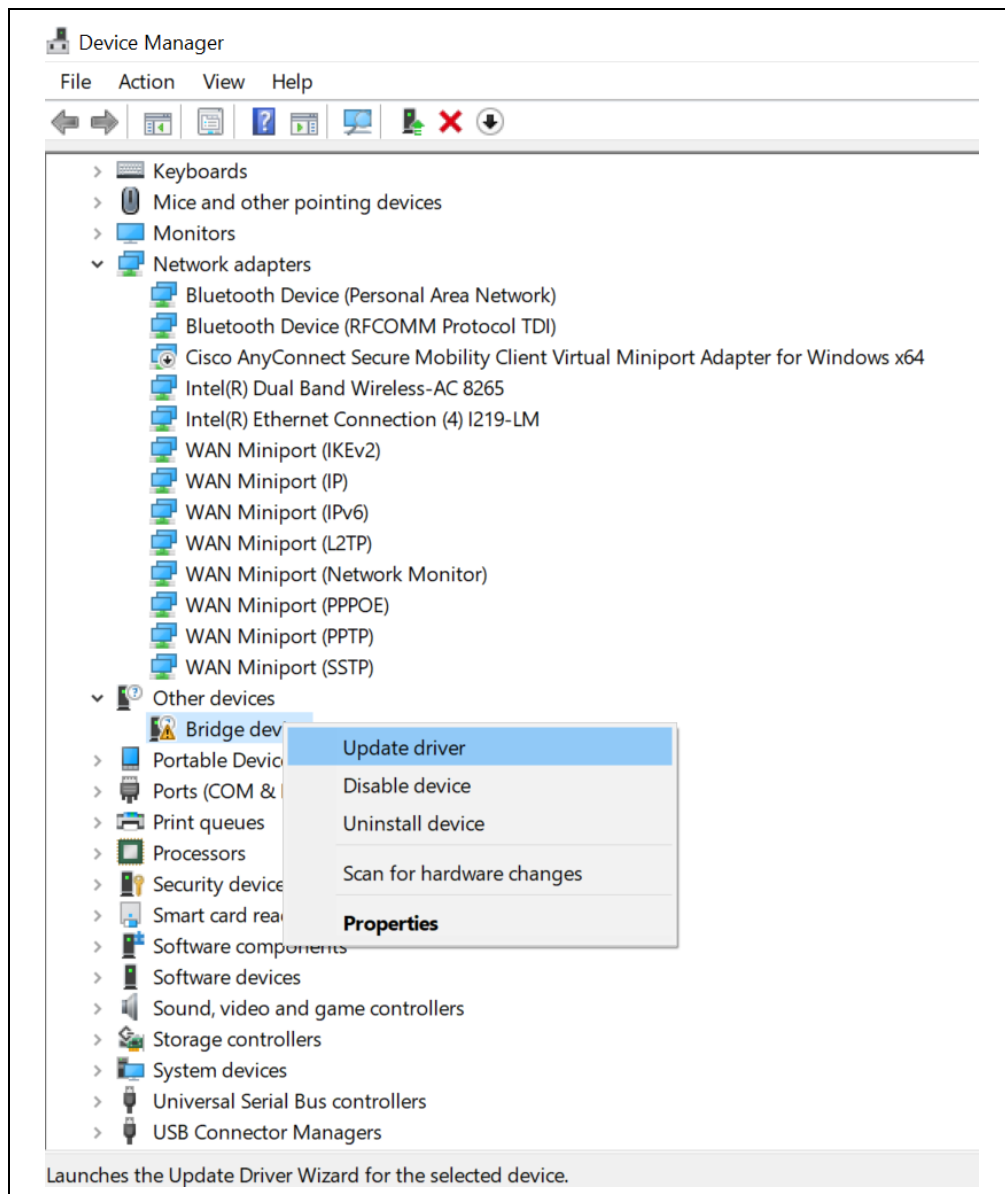

FIGURE 2-3: “Update driver” Pop-up Window.
- A pop-up window will open as shown in Figure 2-3 below. Choose “Update driver” and click on it.